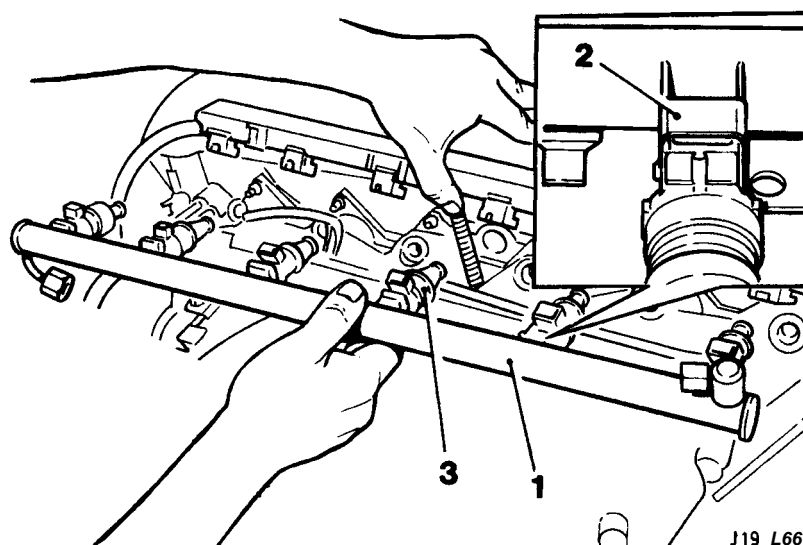

Fig. 1
- Undo and remove regulator mounting bracket to inlet manifold bracket securing bolt (5 Fig.1).
- Remove fuel rail assembly (1 Fig.1) from manifold.